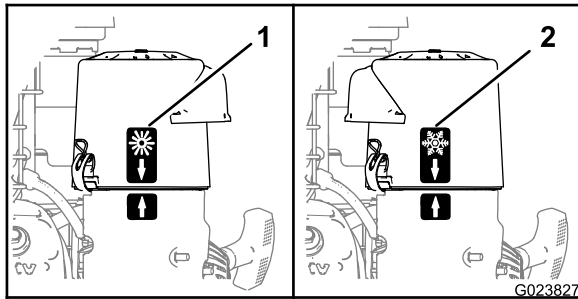

Figure 8
- When operating in a **cold ambient air condition** (cold air temperature and humidity)—position the air-cleaner cover with snowflake decal facing out (Figure 8).
- When operating in a **normal ambient air condition**—position the air-cleaner cover with sun decal facing out (Figure 8).